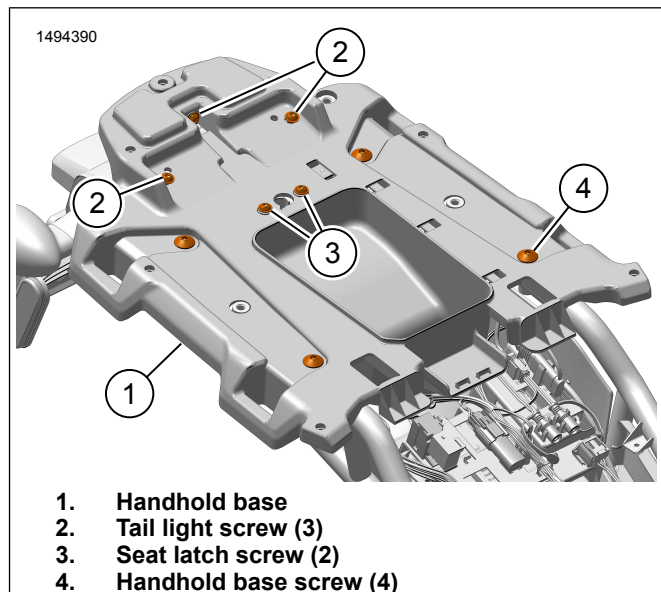

Figure 7. Install Handhold Base
- a. See Figure 7. Install seat latch screws (3). Tighten.
- a. See Figure 7. Install tail light screws (2). Tighten.
4. See Figure 7. Install handhold base (1).
- a. Install handhold base screws (4). Tighten.